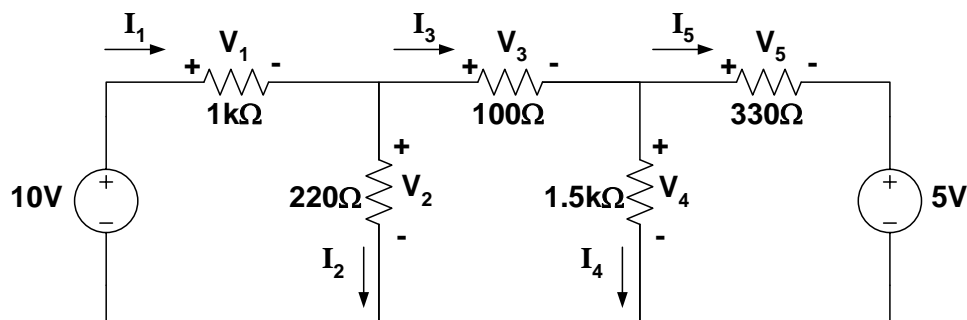

Figure 5: Resistive circuit with two sources
1. Construct the circuit in Fig. 5 on *Multisim Electronics Workbench*. Put the meters in the appropriate places to read the voltages and currents.
3. Note the current directions and voltage polarities shown in Fig. 5.